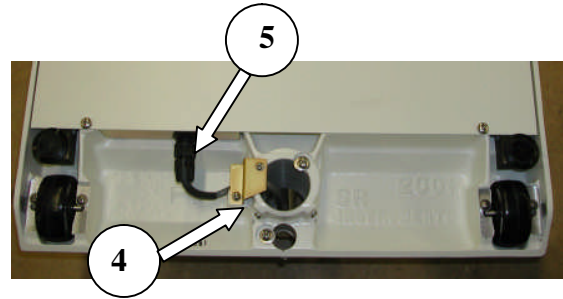

Figure 2: Cable Clamp, Display Cable, Connector, and Set Screws
| Figure 2: Cable Clamp, Display Cable, Connector, and Set Screws..... | 5 |
STEP 6: (Figure 2) Lay the system on its side and remove the Cable Clamp (4) from the Base Assembly. Attach the Display Cable Connector (5) to its mate in the Base Assembly.
STEP 7: (Figure 2) **IMPORTANT: Reinstall the Cable Clamp!** Set the display cable into the groove under the Cable Clamp and reinstall the Cable Clamp, leaving just enough slack to alleviate any tension on the Display Cable Connector. Securely tighten the two (2) Cable Clamp screws. Slide the extra cable back up into the Mast. Excess cable **MUST NOT** contact the floor.